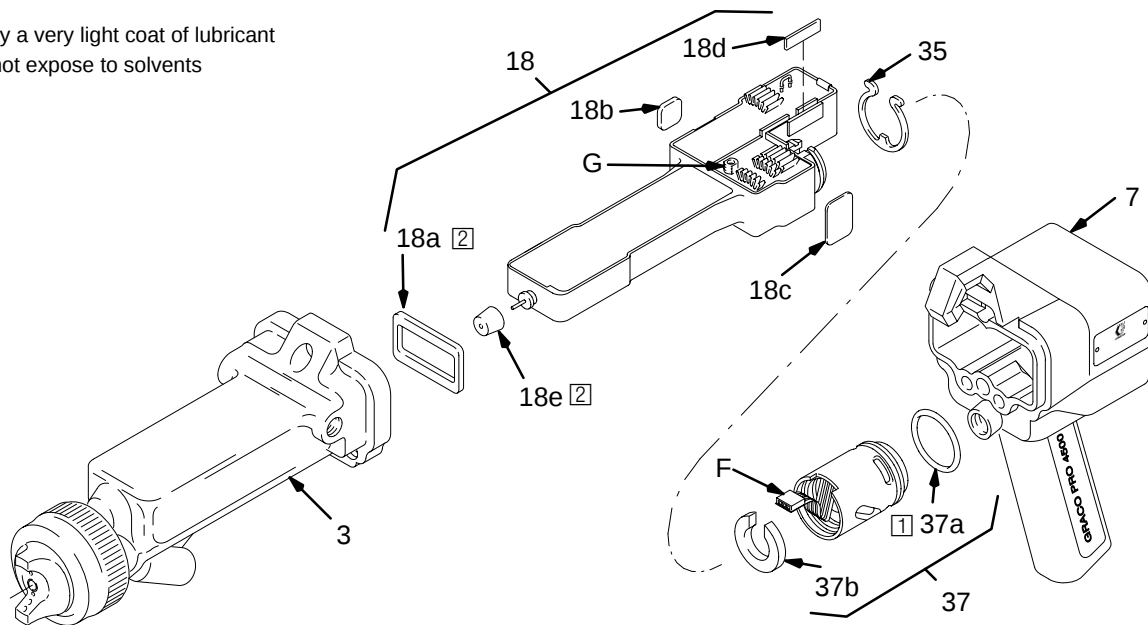

Fig. 18
3. Grasp the power supply (18) with your hand. With a gentle side to side motion, pull the power supply free from the gun handle (7), then pull it straight out. See Fig. 18.
3. Squeeze the two ends of the retaining ring (35) together and carefully pull the alternator (37) away from the power supply (18) until the wire connector (F) disengages. See Fig. 18, page 27.
4. Use an ohmmeter to test the turbine alternator coil. Measure the resistance between the two outer terminals of the 3-wire connector (F). Resistance should be 3 to 5 ohms. If the reading varies from this value, replace the alternator.
6. Connect the 3-wire connector to the 3 prongs in the power supply. Push the alternator (37) onto the power supply (18) until the retaining ring (35) engages with the alternator.